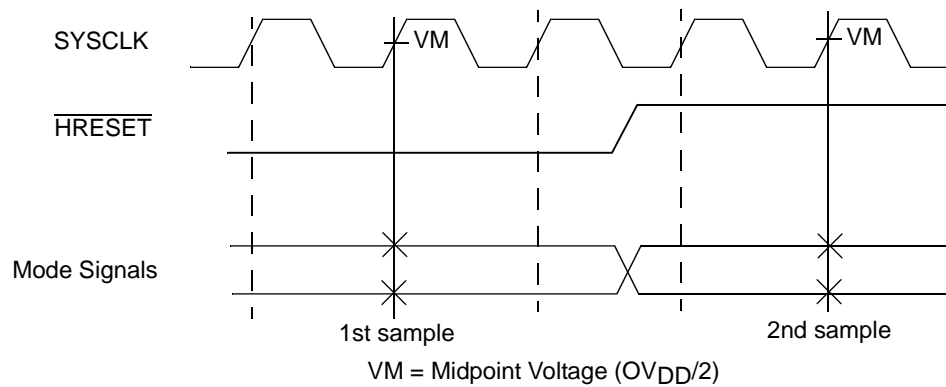

Figure 5. Mode Input Timing Diagram
Table 9 provides the processor bus AC timing specifications for the MPC7457 as defined in Figure 4 and Figure 5. Timing specifications for the L3 bus are provided in Section 1.5.2.3, “L3 Clock AC Specifications.”
8. $\overline{\text{BMODE}}[0:1]$ and $\overline{\text{BVSEL}}$ are mode select inputs and are sampled before and after $\overline{\text{HRESET}}$ negation. These parameters represent the input setup and hold times for each sample. These values are guaranteed by design and not tested. These inputs must remain stable after the second sample. See Figure 5 for sample timing.
Figure 5 provides the mode select input timing diagram for the MPC7457.